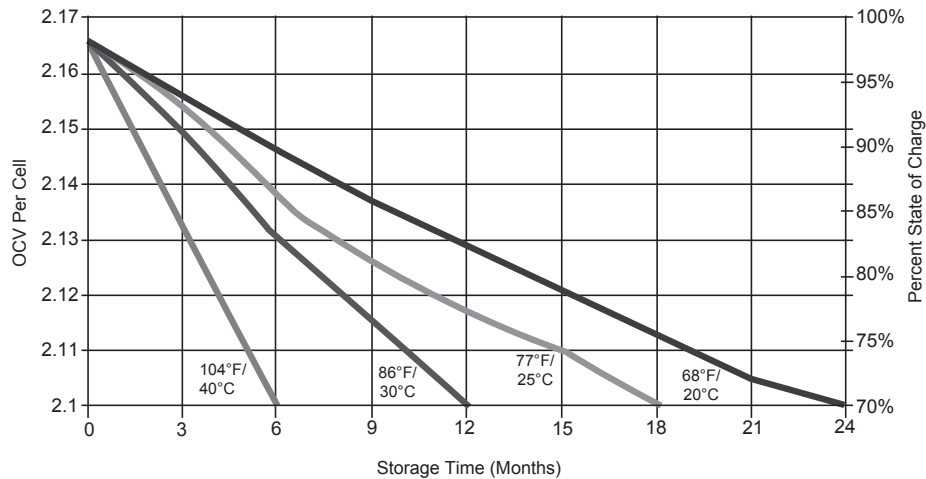

Fig. 0-1, Capacity vs. Storage Time
- It is important to track open circuit voltage which is related to the density of the electrolyte. If the open circuit voltage is lower than 12.6VDC or the batteries have been stored beyond the limits shown in **Fig. 0-1**, the batteries should be charged to avoid damage caused by self-discharge.